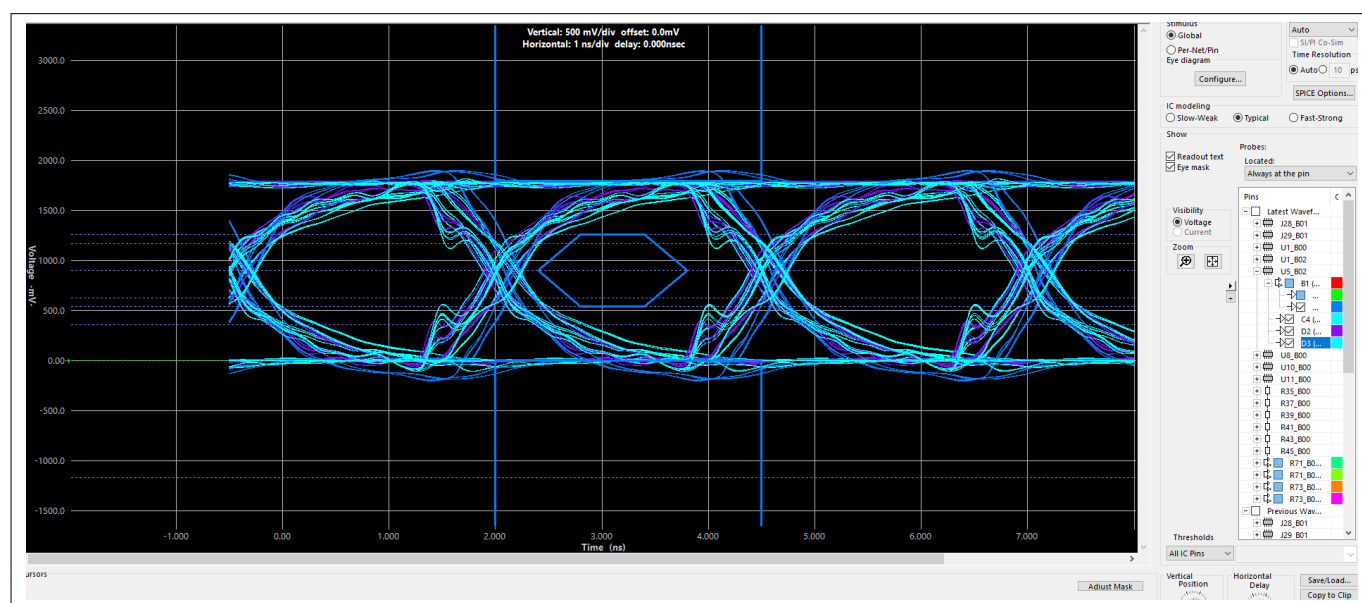
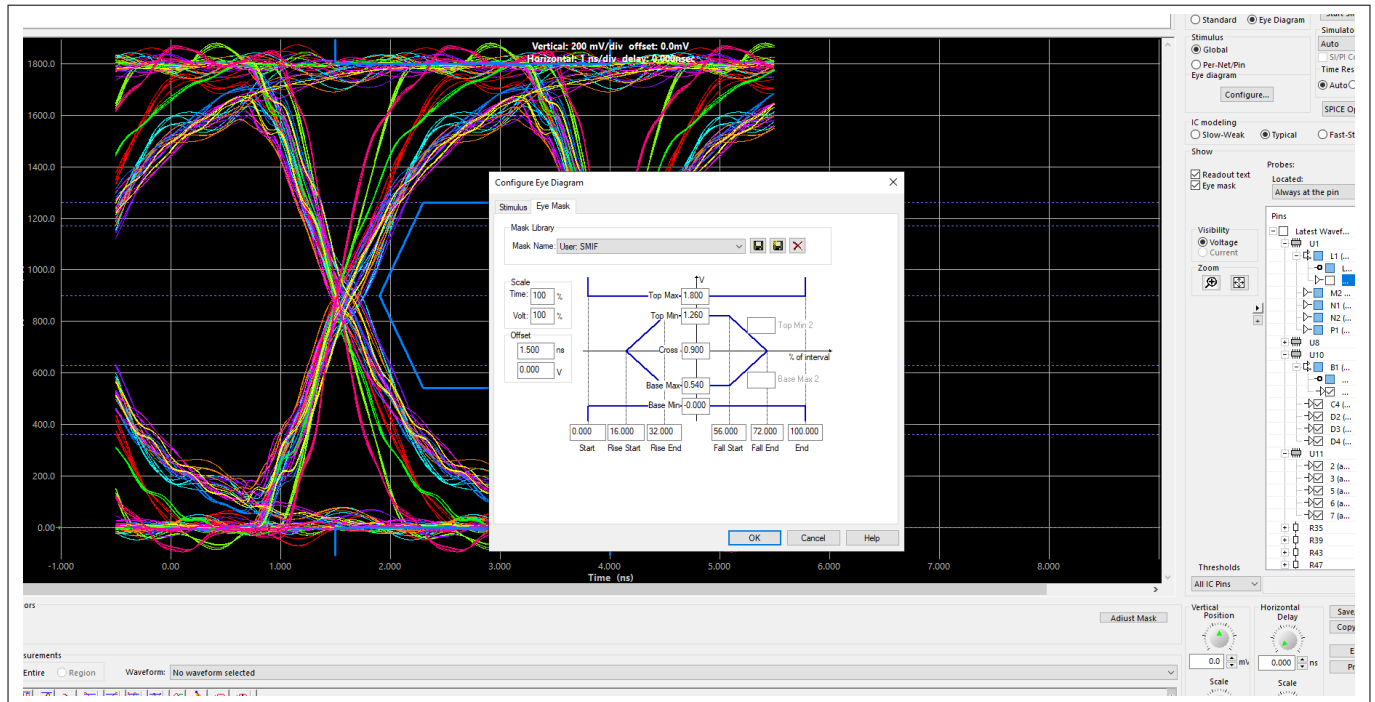

Figure 14 Output waveform at the receiver
Figure 15 Output waveform at the receiver end
- Single-ended clock double data rate (Figure 14 and Figure 15)